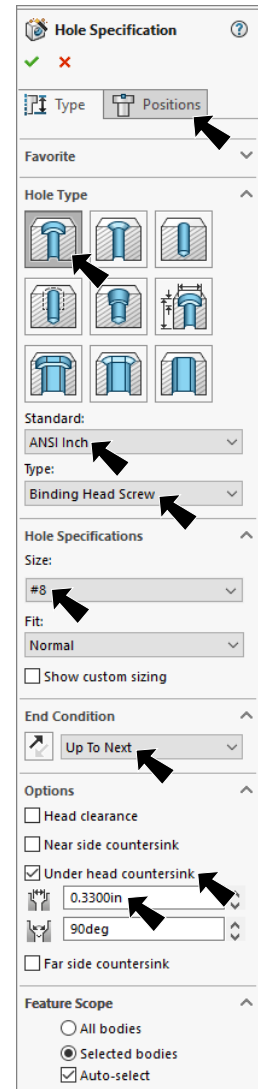

Fig. 23
Step 4. In the Property Manager, under Hole Type, **Fig. 23**